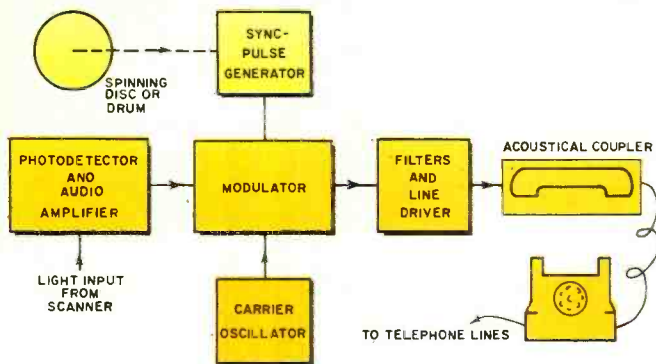

Fig. 1. Simplified block diagram of the transmitter section.
The job of the facsimile transmitter is to transform printed information on a document into electrical signals suitable for transmission over standard voice-grade telephone lines. This process generally involves five steps: (1) scanning the document to produce electrical analog signals representing the information printed on it, (2) generating a set of scan and sync signals, (3) modulating the scan and sync signals with an audio carrier signal, (4) conditioning the composite facsimile signal with a set of sideband and noise filters, and (5) coupling the composite signal to a telephone handset *via* an acoustical-coupler unit. See Fig. 1.